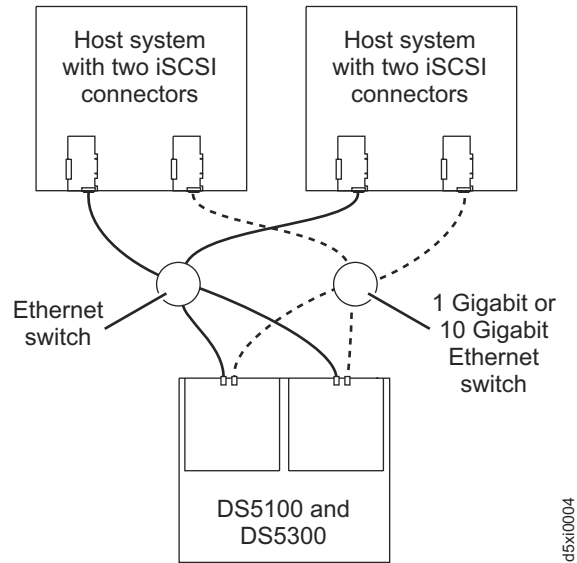

Figure 97. Example of a multiple-host, multiple-port configuration
- Multiple-host, multiple-port configuration, as shown in Figure 97 on page 145
Figure 97 on page 145 shows a multiple-host, multiple-port configuration. For cluster configurations, the following illustration is an example of a multiple-host, multiple-port, and redundant path and controller configuration. You can replace the two gigabit Ethernet switches in the illustration with one large gigabit Ethernet switch that has the required number of ports. Virtual local area network (VLAN) can also be used to isolate the two iSCSI networks, instead of a single switch.